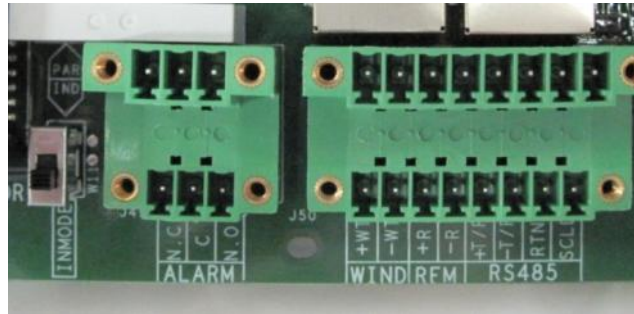

Figure4:08: Alarm contact terminal block
The function controls a set of dry relay contacts, which can be wired by the user as either normally open (N.O.) or normally closed (N.C.); contacts are rated at 250V/1A. The terminals for this function are accessed via the front panel as shown in Figure 4:05.
• ENABLE - Activates the ON/OFF function, requiring an external contact closure to activate the inverter. Hardware access to the ON/OFF function is via terminals +R and -R, shown in Figure 4:08. When the function is active,